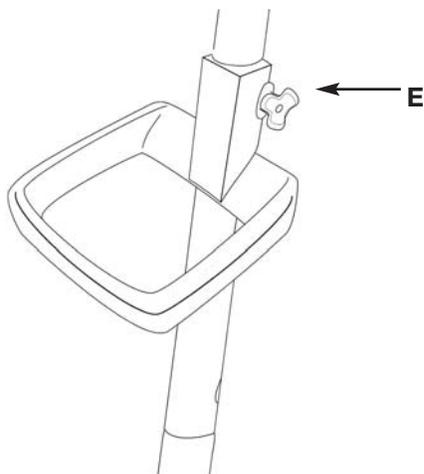

Figure 4
5. Loosen the adjustable handle and reposition until it reaches the optimum length for the principal operator, then retighten the bolt in Figure 4. (Readjust for each subsequent operator.)